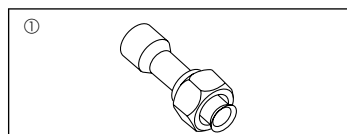

Fig. 1-1
1.6. Accessories of outdoor unit (Fig. 1-1) (RP200/250)